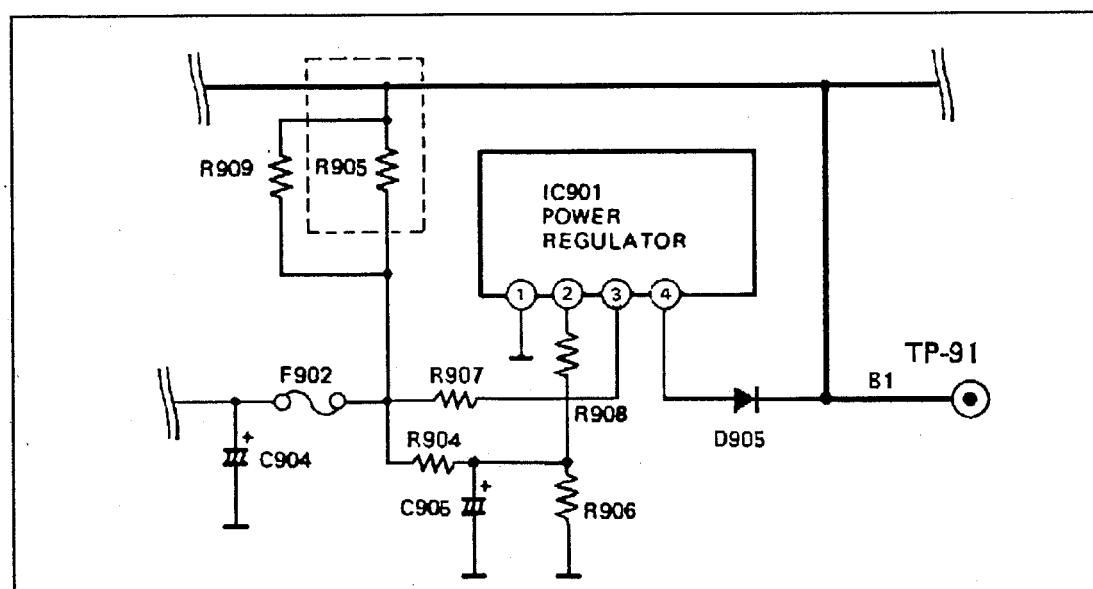

Fig.2
(1) Make the short circuit across R905, 330 Ω 15W UNF R (shown in Fig.2,) under normal operating condition.
(2) Confirm the picture goes out.